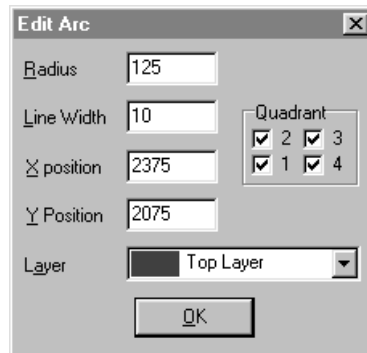

Figure 4.19. Use Edit Arc to define the attributes of an arc.
- 4 Select the arc options from the dialog box pictured in Figure 4.19 (see the following table for option descriptions), then choose OK.